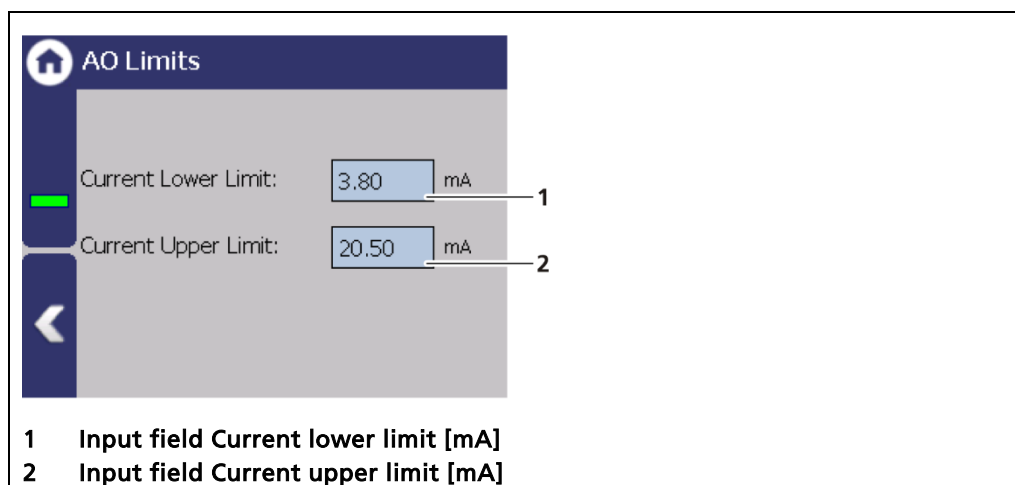

Fig. 116 Analog output (AO limits)
The values [mA] for the lower and upper current limit can be set by clicking on the entry fields (Fig. 116, item 1, item 2). Alongside the default value 3.8 A, the lower current limit can be set to 0mA to switch the current output from 4 ... 20mA to 0... 20mA.